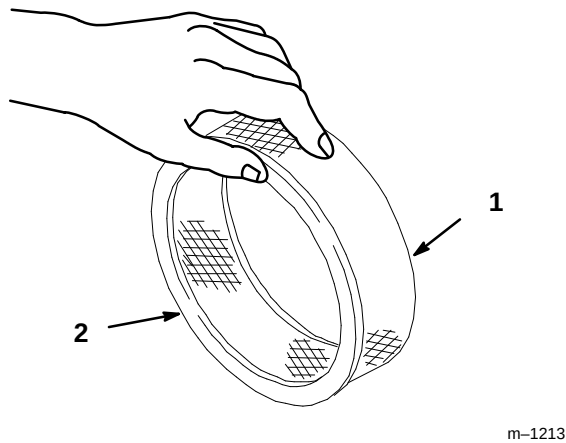

Figure 20
- A. Lightly tap the element on a flat surface to remove dust and dirt (Fig. 20).